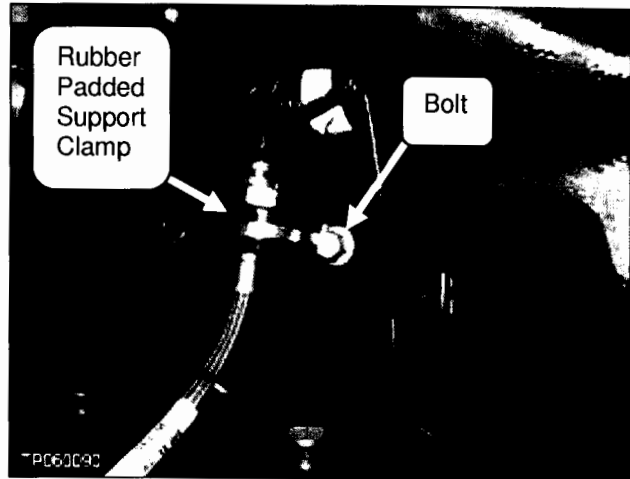

Figure 7
13. Secure the brake hose/hard line to the vehicle frame rail with the provided rubber padded support clamp and bolt (see Figure 7).